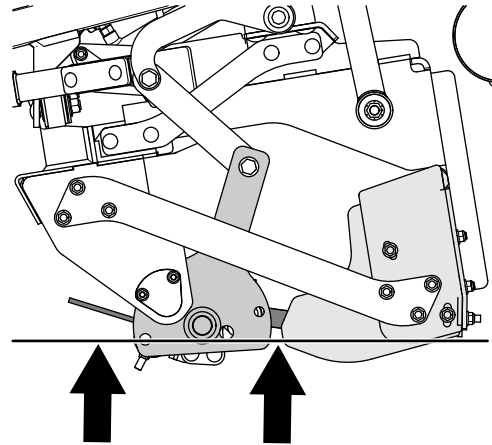

Figure 50
4. Tilt the multi-tool carrier backward (Figure 50) until the tines are aligned higher than the bottom of the grader blade; refer to Tilting the Mid-Mount Attachment Forward \(page 28\).